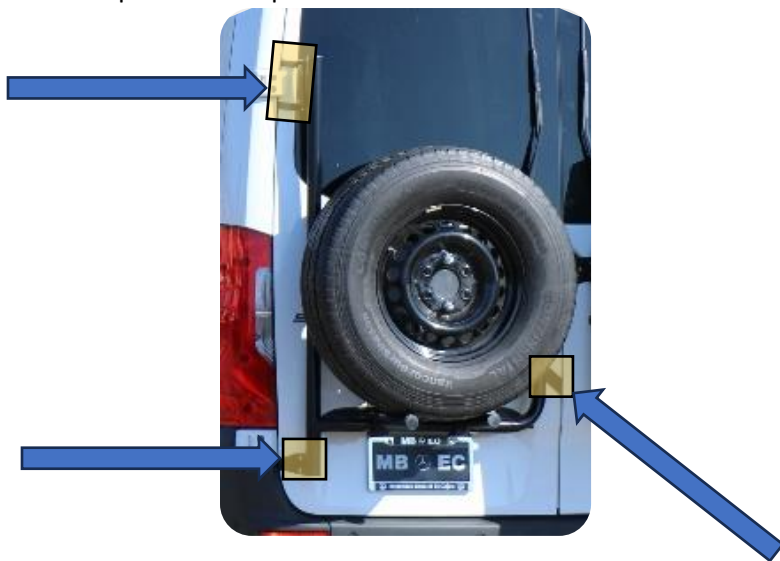

Figure 1: Protective Tape Locations on Door
1. Cut the supplied protective tape into shape using the templates at the end of the installation instructions to provide additional protection for the door. Each bracket is designed to contact only at the door edges, but enough protective tape is provided to cover the entire overlapping area. Make sure that the sticky side is oriented correctly while cutting and applying (white backing towards vehicle). Reference Figure 1 & 2.
- 22. Loosely install the bolt-on tire/box supports onto the bottom crossmember of the rack as shown in Figure 1.